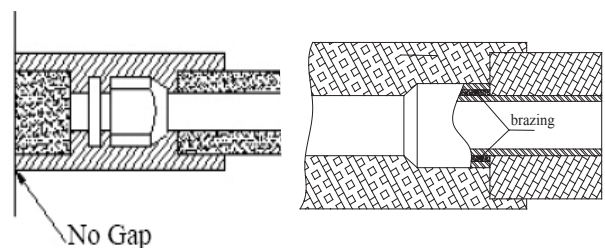

Fig. 11-20
2. The joint connecting the indoor unit must be wrapped by thermal insulation materials. There should be no gap between the connecting pipe joint and the wall of the indoor unit (refer to Fig. 11-20).